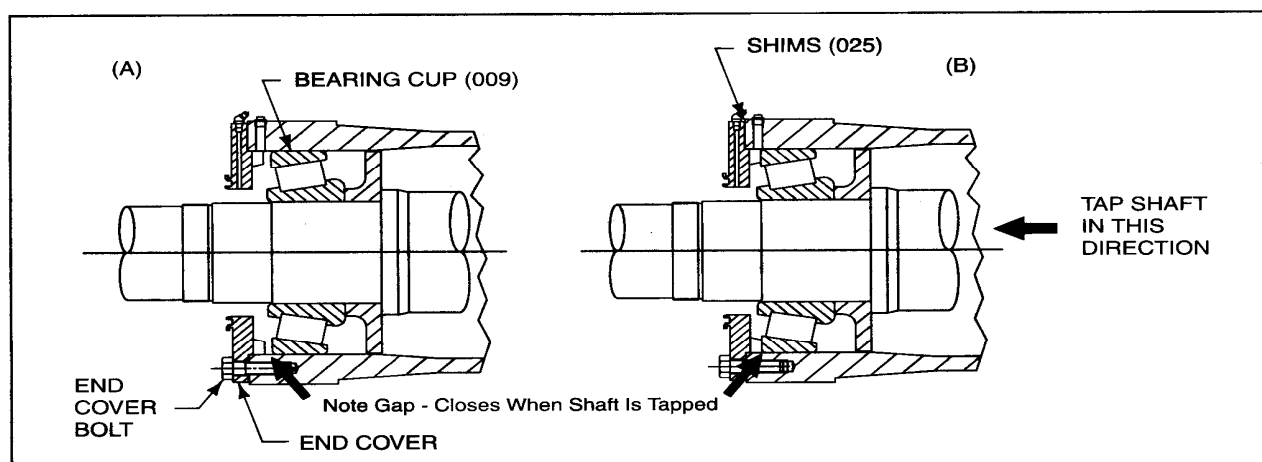

Figure 2-5 • Adjustment of Bearing Cup
6. Place END COVER (024) into housing and insert END COVER SCREWS (027). Do not use shims at this stage; they will be used later as shown in Figure 2-5.
1. Press or gently tap the shaft at threaded (impeller) end until bearing cup at opposite end has moved back to the loosely fitted end cover (see Figure 2-5). Be careful not to damage thread.
Having moved the drive end bearing cup back to the end cover as shown in *Figure 2-5(B)* and fully tightened all screws, it is now necessary to measure the actual end play in the bearing assembly.
If shims have to be added, follow procedure for fitting shims and moving bearing cup back to end cover as shown in *Figure 2-5(B)*. After readjusting endplay with shims, measure the actual play again with the dial indicator.